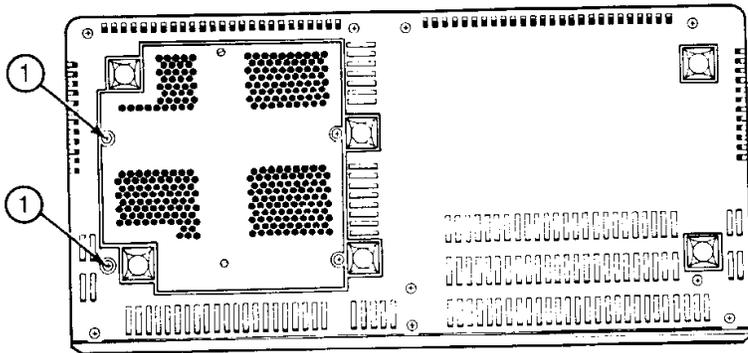

FIGURE 12
19. Turn the ProFile over and rest the HDA on the protective pad. Loosen the four bottom screws that mount the HDA to the ProFile housing. (Figure 12, Item 1).